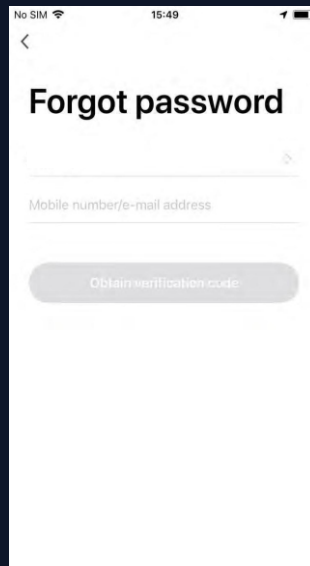

Fig. 2
2. The system will identify automatically the country/region you are in, or you may choose to select manually a country/region. Enter the mobile phone number or email you used to register and click "**Obtain authentication code**", as shown in Fig. 2.